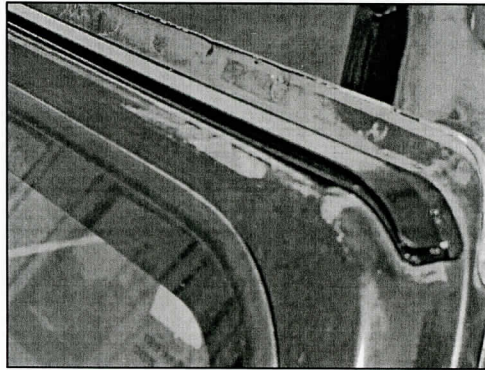

Figure 1
1. Position Windshield Channel onto vehicle as shown in Figure 1.
2. Once in position, secure Windshield Channel using the included (11) ST4.2 x 15 Sheet Metal Screws (Figure 1). **NOTE:** In some cases the holes on the Windshield Channel will line up with existing holes. In this case, ensure holes are not too large to install the new screws included in the package. If holes are too big, you must replace the included screws with larger screws, found at any local hardware store. If you are replacing a hardtop, use the Windshield Channel as a template to drill 1/8" holes.